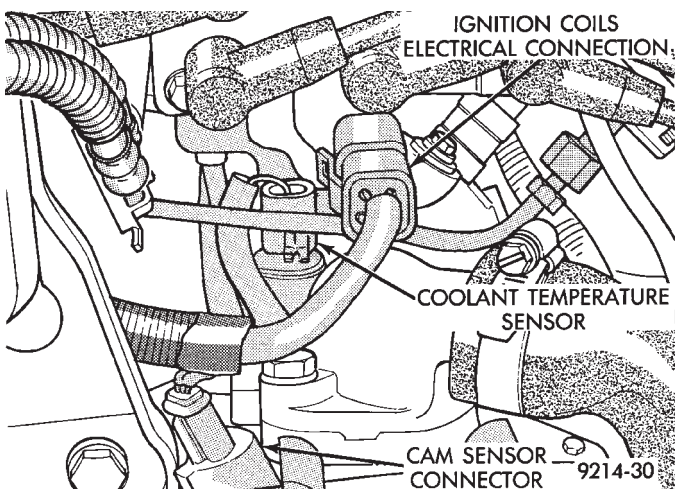
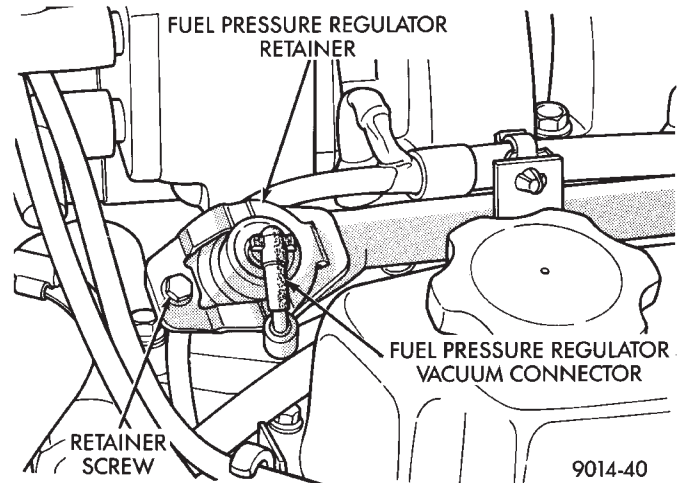

Fig. 4 Coolant Temperature Sensor
Fig. 5 Fuel Pressure Regulator Vacuum Connection
(5) Ensure the coolant temperature sensor electrical connector is connected to the sensor and not damaged (Fig. 4).
(6) Verify the quick connect fuel fittings are fully inserted on the fuel supply and return tubes.
(7) Check the vacuum hose connection at the fuel pressure regulator for damage or leakage (Fig. 5).